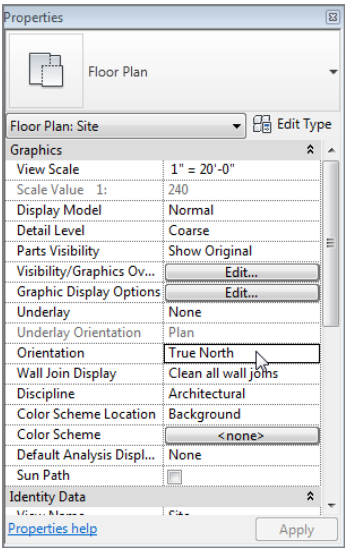

FIGURE 18.26: Orienting the site to true north
1. In the Properties dialog box for the view, change Orientation to True North, as shown in Figure 18.26.